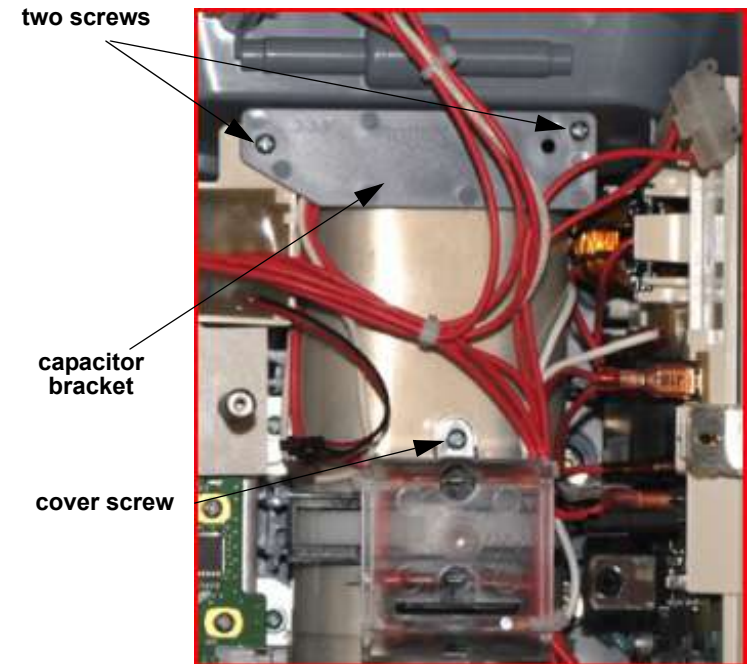

Figure 10.79—Interconnect bracket screw locations
Refer to Figure 10.78 on p. 404 and Figure 10.79 on p. 405.
4. Secure the clear plastic high-voltage shield (3010593-00) to the interconnect bracket with one new screw (202253-761); torque to 6.8 in-lb (see Figure 10.79 on p. 405).
5. Secure the capacitor bracket (3207031-001) with two new screws (202253-761); torque to 6.8 in-lb (see Figure 10.79 on p. 405).